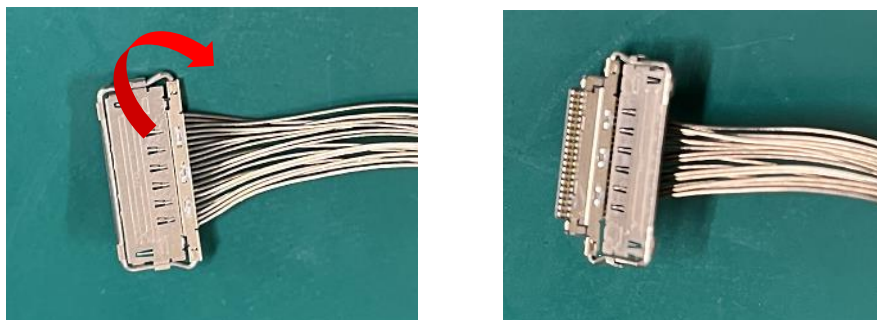

Figure 4-6 Plug connector lock bar
- ① As shown in Figure 4-6, rotate the lock bar on the plug connector to open it.